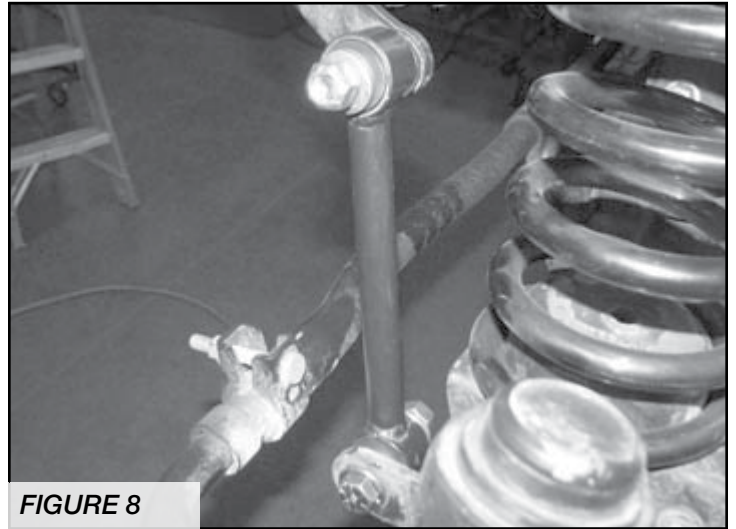

FIGURE 8
11. Locate FT50261BK Front Sway Bar End links, FT50048 & FT50089 bushing and sleeve kits. Press one bushing and one sleeve from the supplied bushing kit into each end of the end link. With the factory hardware, connect the new end link to the sway bar, then using the supplied 1/2" x 2-3/4" bolt, nut and washers, connect to the lower sway bar mount. Torque the upper hardware to 40 ft-lbs. and the lower hardware to 75 ft-lbs. SEE FIGURE 8